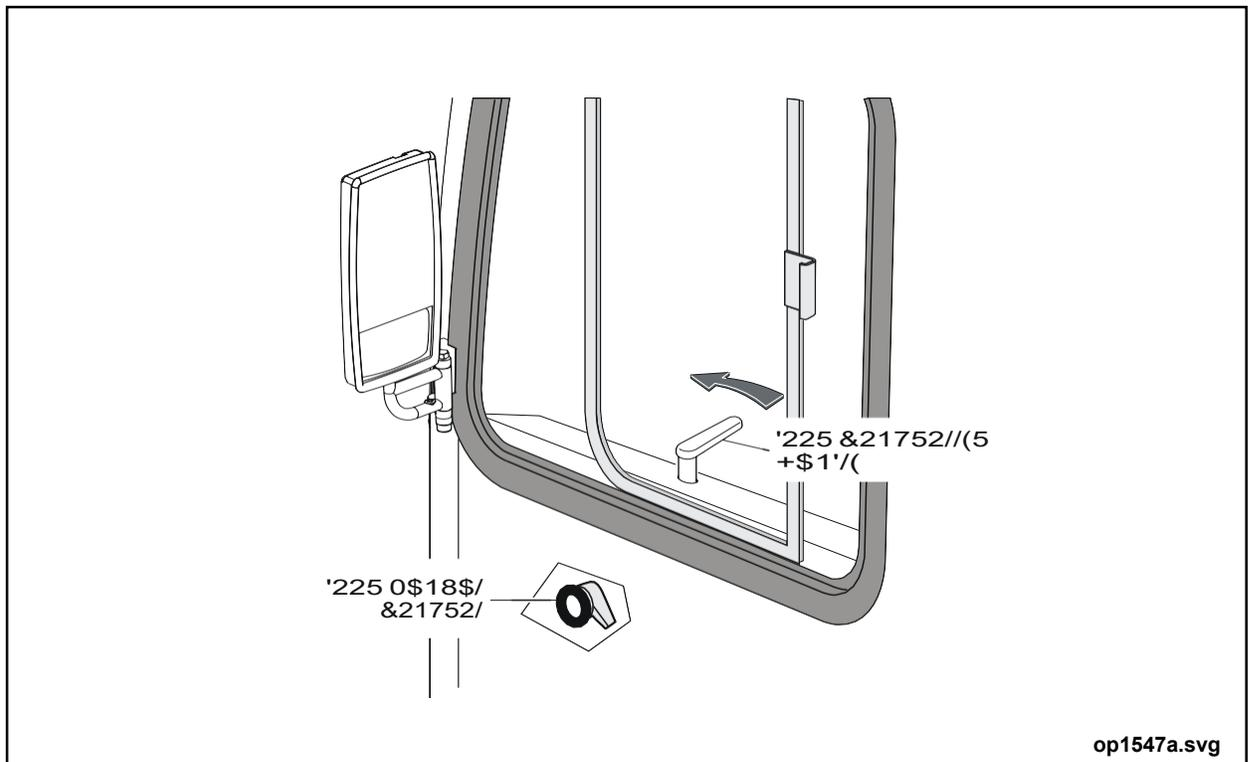

Figure 7: To Enter the Vehicle
1. Slide the front portion of the driver's window back to gain access to the door controller handle on the side console. See "Figure 7: To Enter the Vehicle" on page 27.